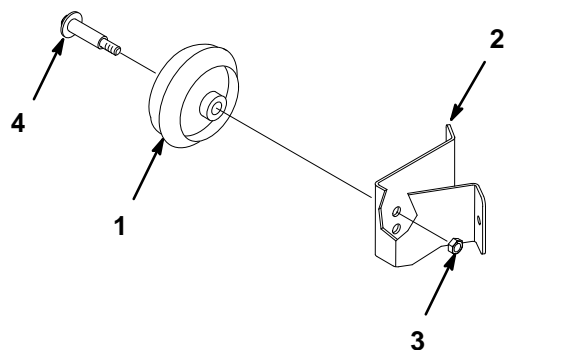

Figure 7
1. To change the height of mower wheels remove wheel mounting bolt and change hole into which it is mounted (Fig. 7).
2. Use the top hole for lowest height-of-cut and the bottom hole for higher heights-of-cut (Fig. 7).